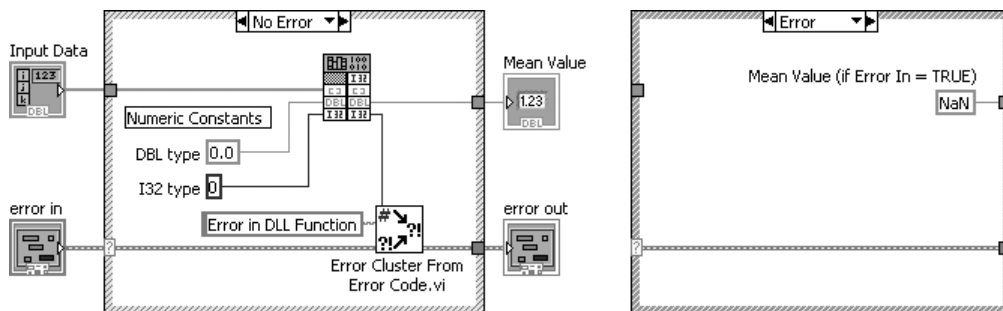

Figure 14.48
- i. Now wire the VI's block diagram as shown in Figure 14.48. You have to provide "dummy" inputs to the arguments, even if they represent outputs, so that LabVIEW knows what kind of data type you are using (due to the fact that these parameter types were configured as "Adapt to Type"). To do this, wire numeric constants into the input, as shown in Figure 14.48. Make sure to set the second input parameter's numeric constant to a DBL type by popping up on the numeric constant and choosing **Representation>>DBL**.